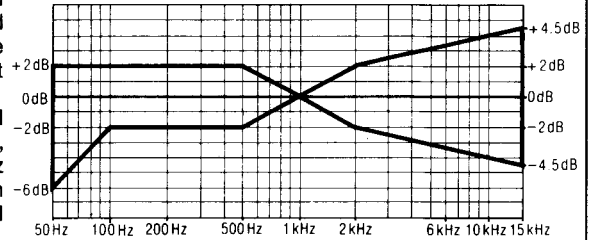

Fig. 14
8. Change test tape to CrO2 reference blank test tape (QZZCRX), and record 1kHz, 50Hz, 100Hz, 200Hz, 500Hz, 4kHz, 8kHz, 10kHz and 15kHz signals. Then, playback the signals and check if the curve is within the limits shown in the overall frequency response chart or CrO2 tapes (fig. 14).
9. Place UNIT into metal tape mode and change test tape to metal reference blank test tape (QZZCRZ), and record 1kHz, 50Hz, 100Hz, 200Hz, 500Hz, 4kHz, 8kHz, 10kHz, 12.5kHz and 15kHz signals. Then, playback the signals and check if the curve is within the limits shown in the overall frequency response chart for metal tapes (fig. 14).